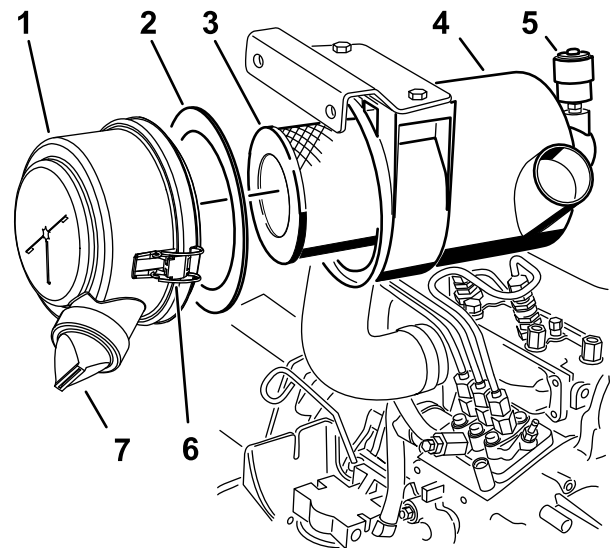

Figure 38
3. Service the air-cleaner filter (Figure 38).